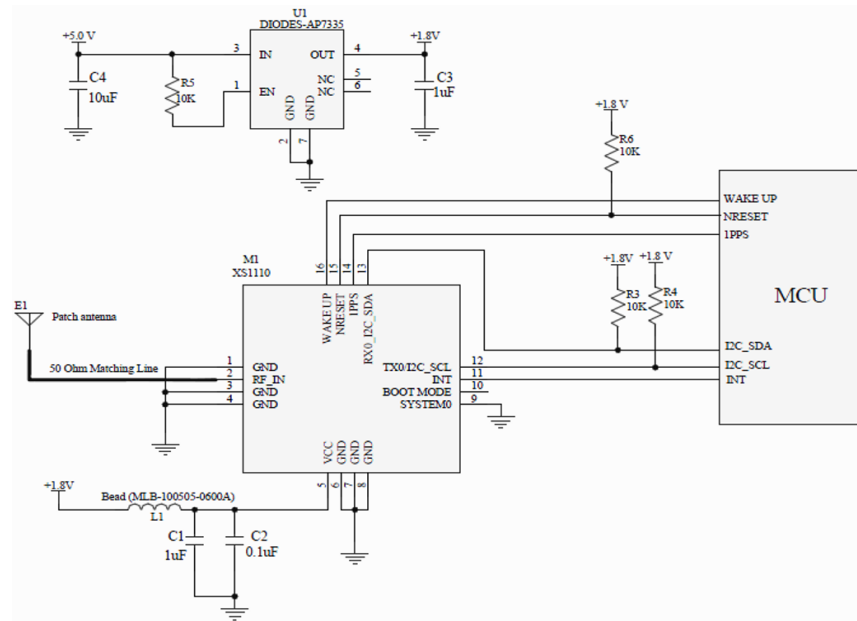

Figure 4-2: Reference Schematic Design for I2C
2. I2C – this interface can support NMEA output; refer to Figure 4-2.